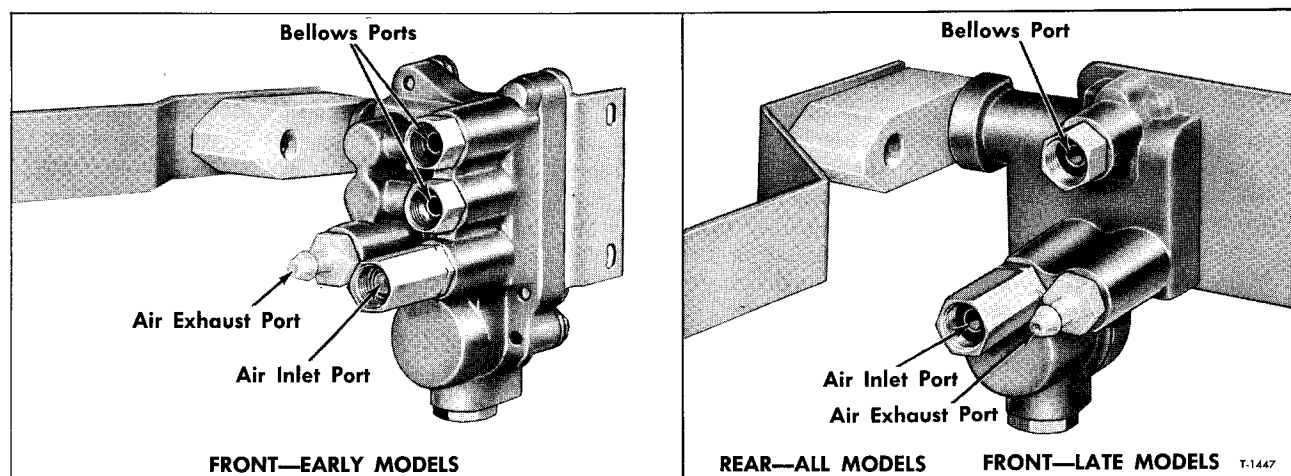

Figure 5—Identification of Valve Air Ports
2. Connect air pressure line to air inlet port (fig. 5), then open the air pressure (80-110 psi).
5. Remove air pressure line from air inlet fitting and connect it to the bellows port (fig. 5). If bubbles appear at the air inlet check valve port, this is an indication that check valve unit is defective and must be replaced.
6. If bubbles appear at the exhaust port (fig. 5), it is an indication that the exhaust valve assembly is defective and must be replaced.
6. If vacuum source is available, attach supply hose to valve exhaust port (fig. 5) using Sun Tester fitting #115-3 or equivalent. Do not apply vacuum at this time.
7. Attach air pressure supply hose to air inlet port (fig. 5). Do not apply pressure at this time.
1. Connect air supply hose (80 to 110 psi) to air inlet port (fig. 5).